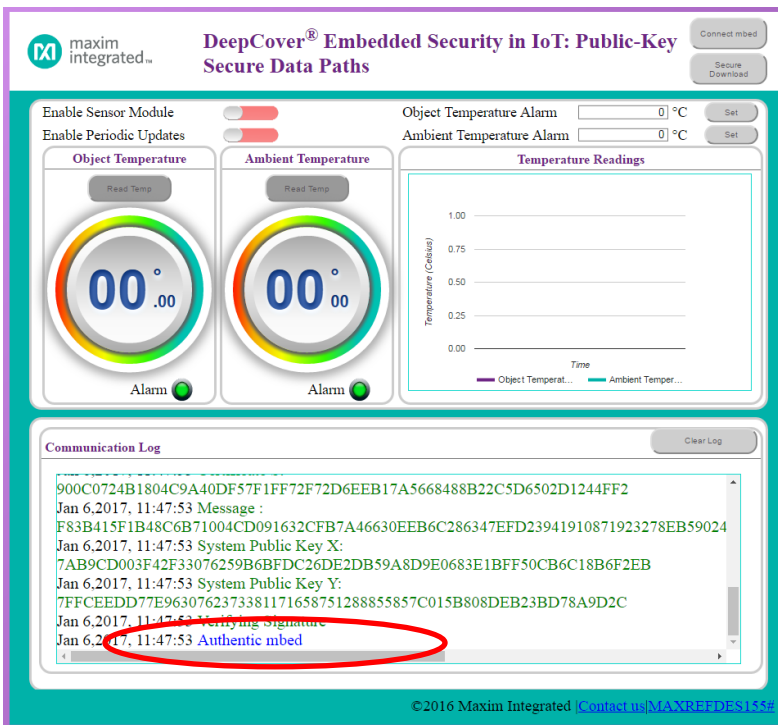

Figure 11. Web server verification that the mbed is Authentic.
10. Verify the web client shows an **Authentic mbed** as in **Figure 11**. This is critical as it indicates from the web server that an *authentic mbed* connection has been recognized. Note: The example web client for this design utilizes a shared instance provided by Maxim for your convenience. Maxim makes no guarantees regarding reliability, availability, or data security when utilizing the shared web-client instance. The authenticated connection recognized in this demo is between the mbed and the web server.